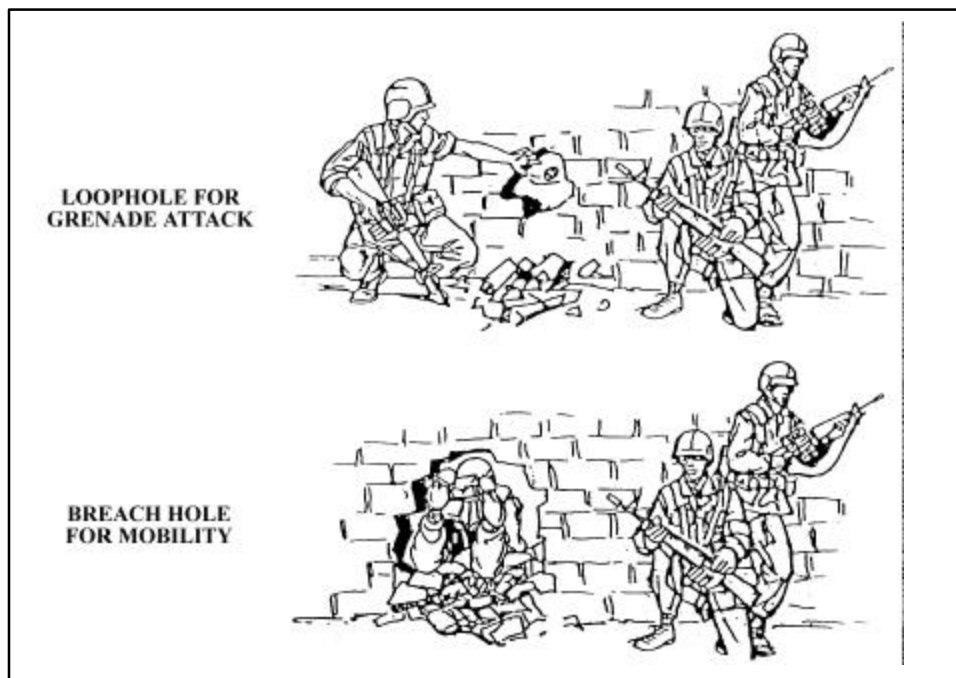

Figure B-6. Tactical Use of Holes in Masonry Walls
d. Wall Breaching. Wall breaching is a common combat task in built-up areas for which light recoilless weapons can be used. Breaching operations improve mobility by providing access to building interiors without using existing doors or windows. Breaching techniques can also be used to create loopholes for weapons positions or to allow hand grenades to be thrown into defended structures. Breaching holes for unit mobility should be about 24 inches (60 centimeters) in diameter. Loopholes should be about 8 inches (20 centimeters) in diameter (Figure B-6). Only the SMAW provides a one-shot wall breaching ability. However, in breaching walls a number of shots should be planned.